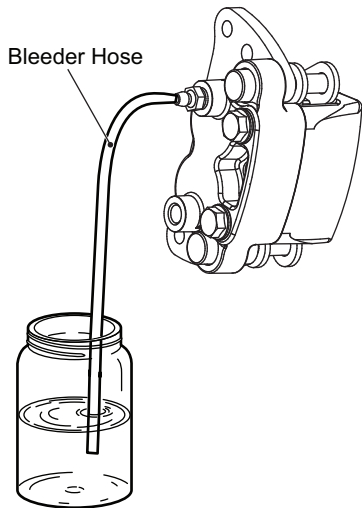

Fig. 5 Bleeder Valve
Use a clean cloth to clean the master cylinder reservoir and caliper bleeder valves (Ref. Fig. 5). Clean each fitting before opening to prevent contamination of the system.
1. Attach a bleeder hose to the bleeder screw. Put the other end of the hose in a glass container partially filled with brake fluid (Ref. Fig. 5).